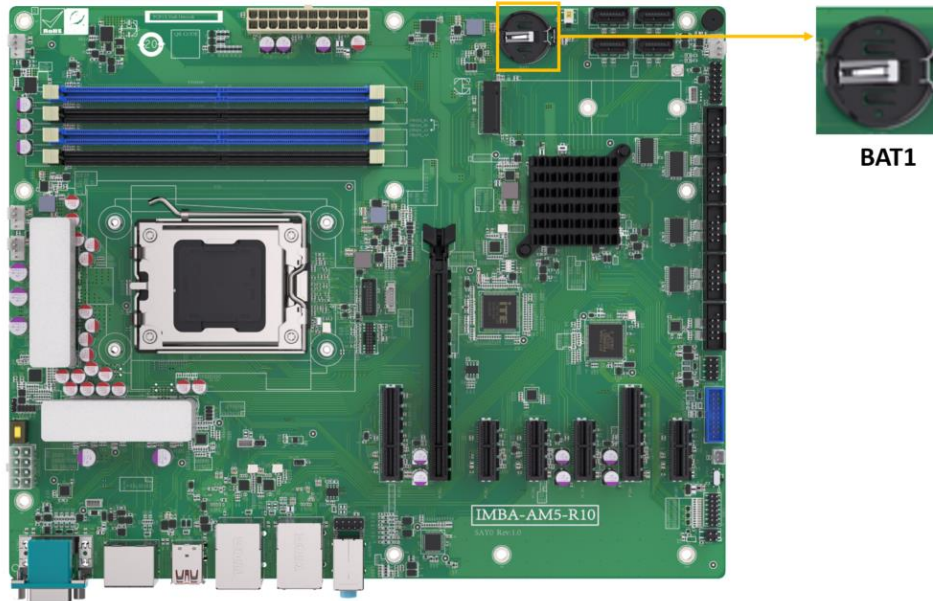

Figure 4-18: Battery Connector Location
- CN Location:** See Figure 4-18